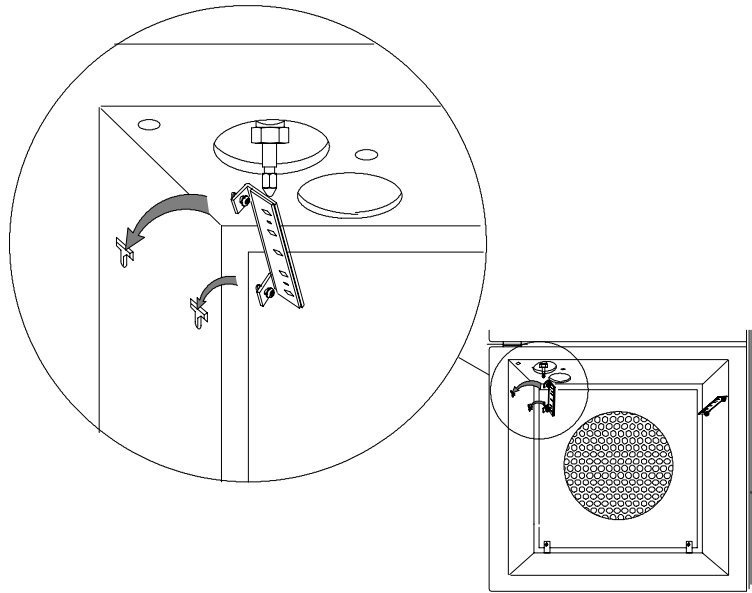

Figure 5 Attach the nut plates
- 2 Inside the oven, locate the pair of T-shaped cutouts on the left wall and match them with the two tabs on the nut plate (see Figure 5). Slide the tabs on the nut plate into the oven cutouts so that the screws rest on the bottom of the T. Repeat on the right side of the oven. Tighten the screws.